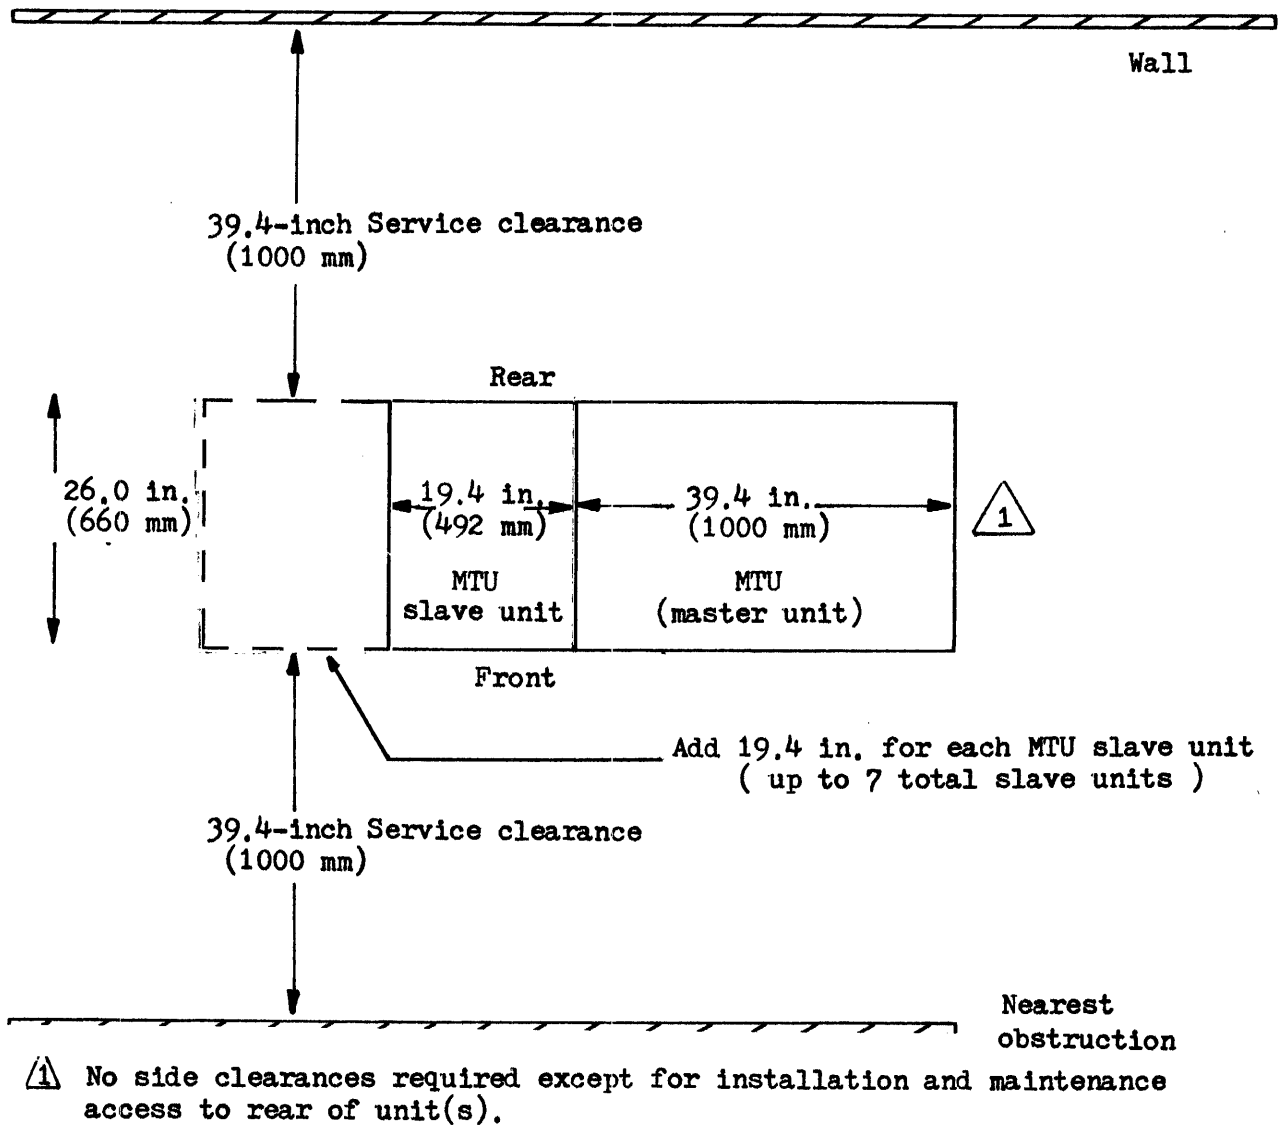
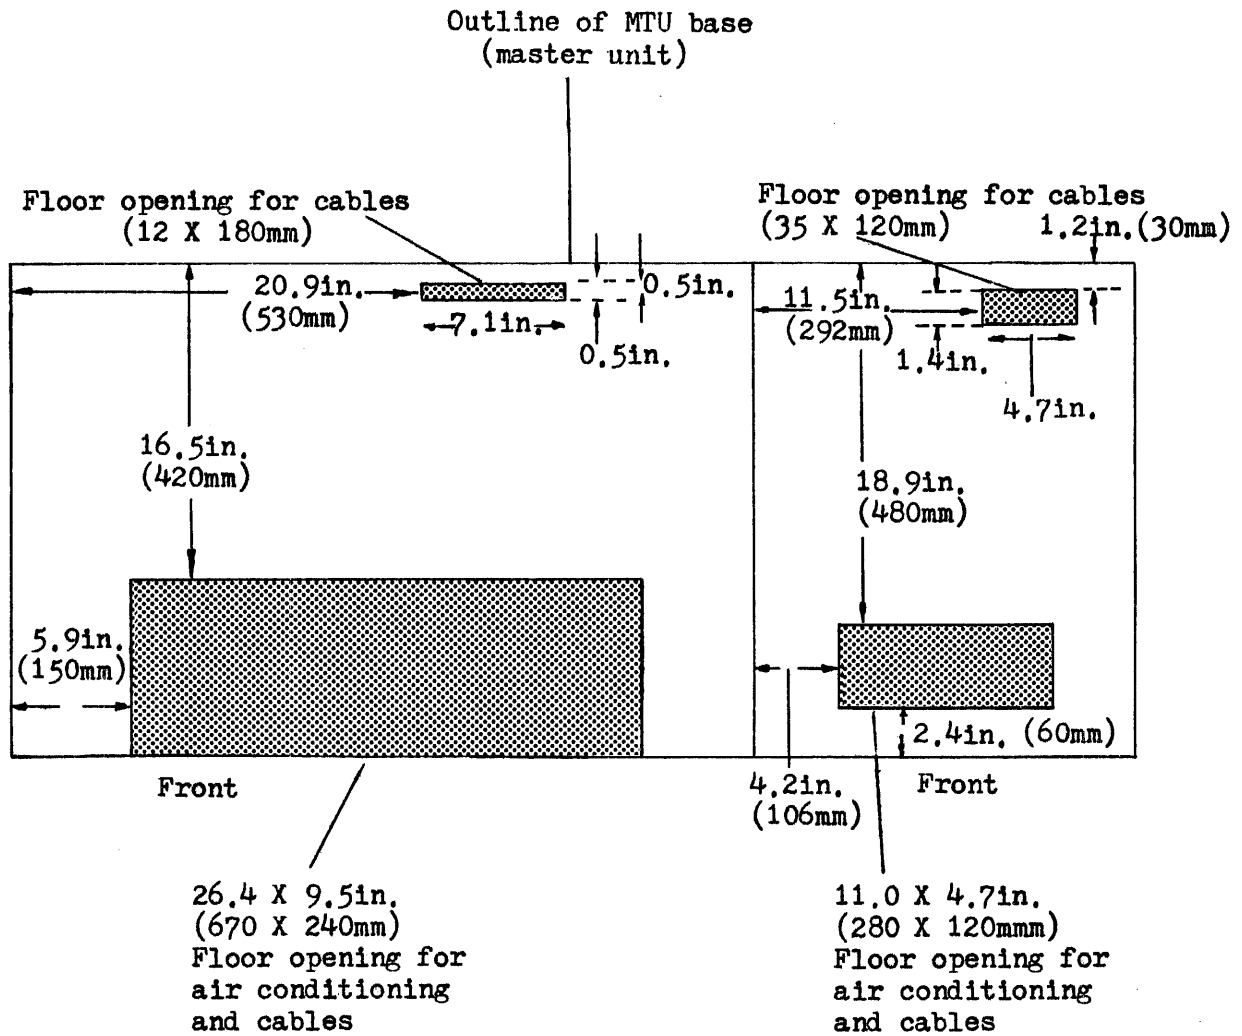

Figure 1-1. Installation clearances. Plan view.
Figure 1-2. Floor openings for MTUs.
- (1) Ensure that the designated space is sufficient to meet installation clearances shown in Figure 1-1.
- (2) Ensure that the cable length from the host controller is sufficient to reach the connecting point(s) on the FMT.
- (3) Verify that the size and position of floor openings are in accordance with dimensions shown in Figure 1-2 when using under-floor wiring.
- (4) Open the rear door of the unit(s) with a flat-head screwdriver. Perform a final check of all received equipment for damage, dents, deformation, corrosion, condensation, and other abnormalities.
- (5) Visually inspect the air hoses and tubes within the MTU. Ensure that there are no cracks and that joints and hose bands are tight.